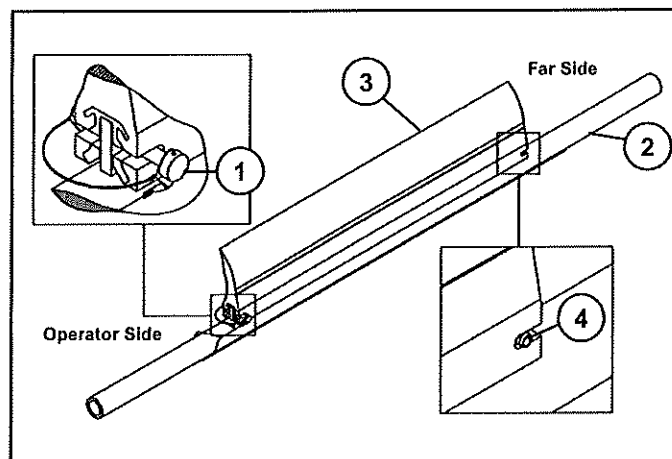

Figure 140
2. Remove the lock pin (Item 1) from operator side of mainframe (Item 2) and blade (Item 3) (**Figure 140**).
3. Pull blade away from stationary pin (Item 4) (**Figure 140**) on far side of mainframe, and remove from mainframe. Make sure lock pin remains attached to mainframe.
4. Position blade (Item 3) on mainframe (Item 2) with blade curve facing conveyor belt. Push far side end of blade against stationary pin (Item 4) until it locks (**Figure 140**).